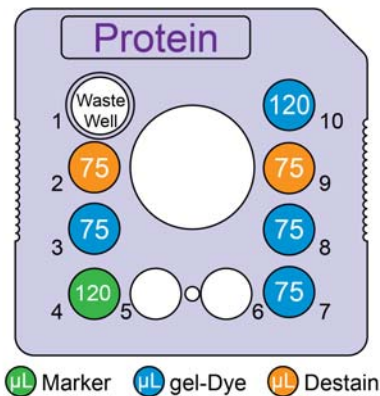
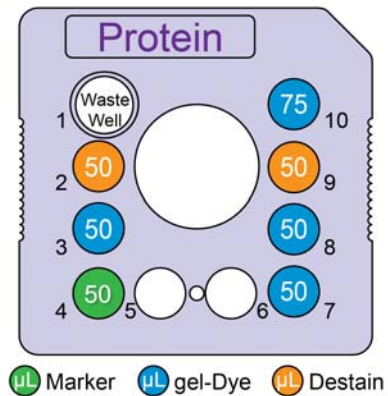

Figure 3. Reagent placement for High-throughput (up to 96 samples).
Figure 4. Reagent placement for Low-throughput (up to 48 samples).
- 5** Using a reverse pipetting technique, add Gel-Dye solution from spin filter tube to chip wells 3, 7, 8, and 10 as shown in Figure 3 (High-throughput) or Figure 4 (Low-throughput).
- 6 Using a reverse pipetting technique, add Destain Solution from spin filter tube to chip wells 2 and 9 as shown in Figure 3 (High-throughput) or Figure 4 (Low-throughput).
- 7 Add Lower Marker (green cap ●) to chip well 4 as shown in Figure 3 (High-throughput) or Figure 4 (Low-throughput). Make sure the marker volume is pipetted accurately. If there is not enough marker in chip well 4, the marker will deplete and will not be added to subsequent samples on-chip. Data collected without marker peaks cannot be analyzed by the software.